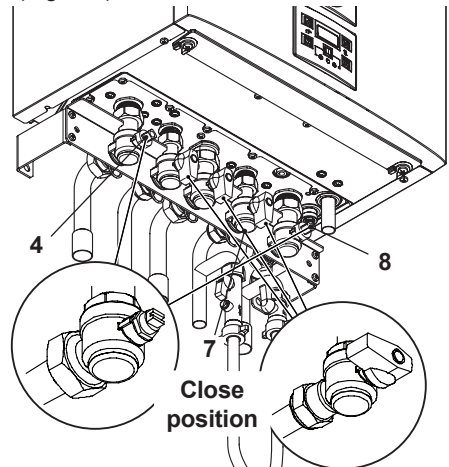

Fig. 9.5
- Turn off the d.c.w. inlet isolating valve 7 (Fig. 9.5).
- Close the c.h. isolating valves (4 and 8 in Fig. 9.5).